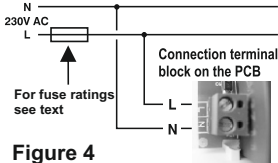

Figure 4
5. Connect the mains cables to the terminal block as shown in figure 4.